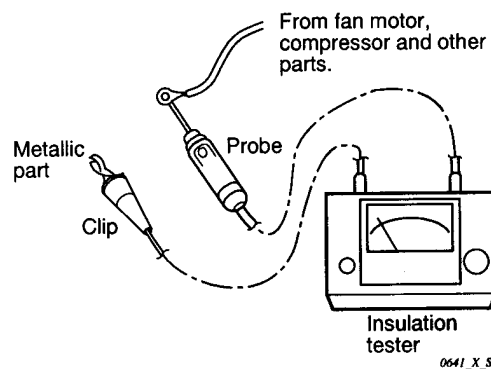

Fig. 8
- Similarly, disconnect the lead wires from compressor, capacitor, etc. (Fig. 8)